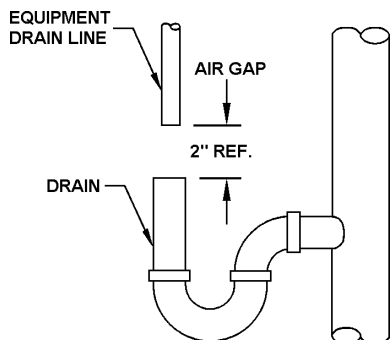

Figure 8. DRAIN
- Step 8. Position DRAIN LINE over drain and secure firmly. To prevent back-siphoning of sewer water, provide an air-gap of at least 2 in. or 2 pipe diameters between end of drain hose and drain (Figure 8). Do not raise DRAIN LINE more than 10 ft. above floor.